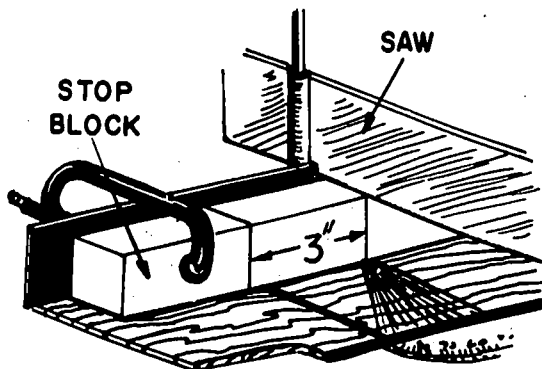

Fig. 18C-1. Cutting Accurately with a Miter Box Saw
4. Cut off a piece of wood. See Fig. 18C-1.